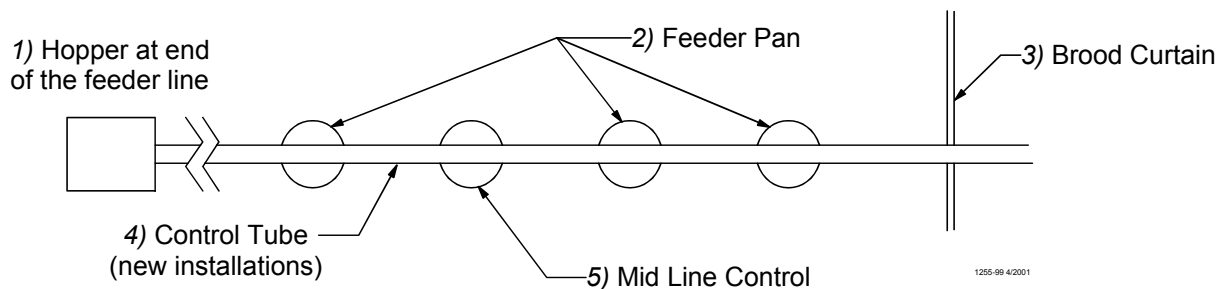

Figure 70. Figure 68 Mid-Line Control Location Diagram
- a. Assemble the Mid-Line Control over the outlet hole in Tube as shown in **Figure 70**.